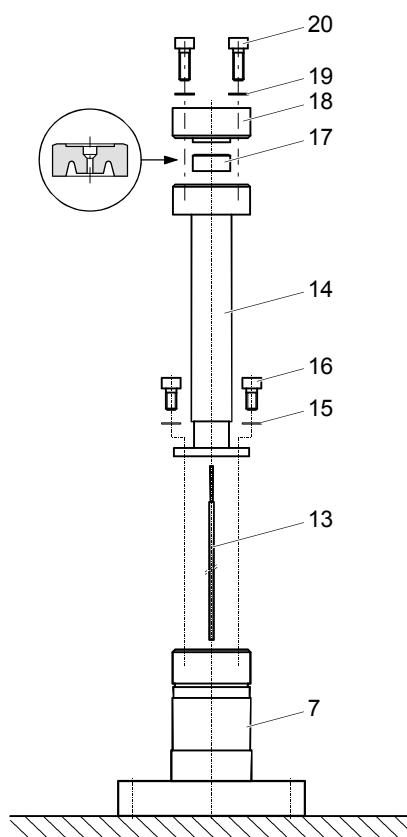

Figure 4
- 9 Put the complete measuring chamber on the table with the flange pointing downwards and carefully slide the extension piece (13) over the anode pin (→ Figure 4).
- 10 Carefully slide the tube (14) over the extension piece and secure it with the two screws (16) and the lock washers (15).
- 11 Slide the insulator (17) over the extension piece (13) as shown in Figure 4 and secure the pressure piece (18) with the two screws (20) and the lock washers (19).